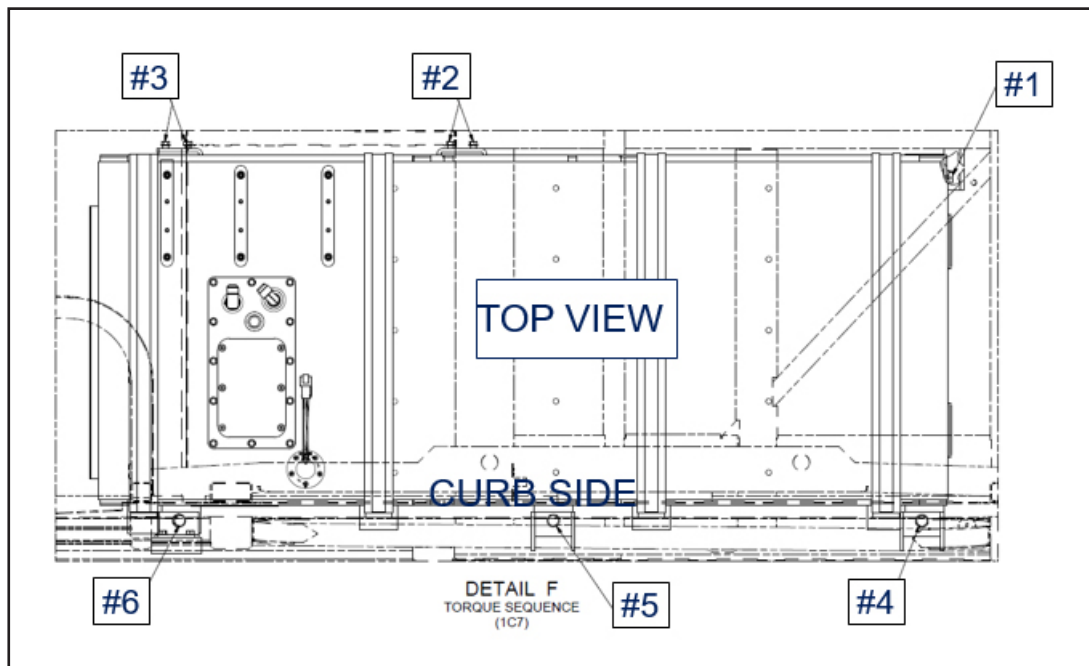

Figure 4 - Removal of Mounting Hardware
- 1.12. Support fuel tank and loosen hardware of mounting points #1, 4, 5 and 6 (see figure 4).